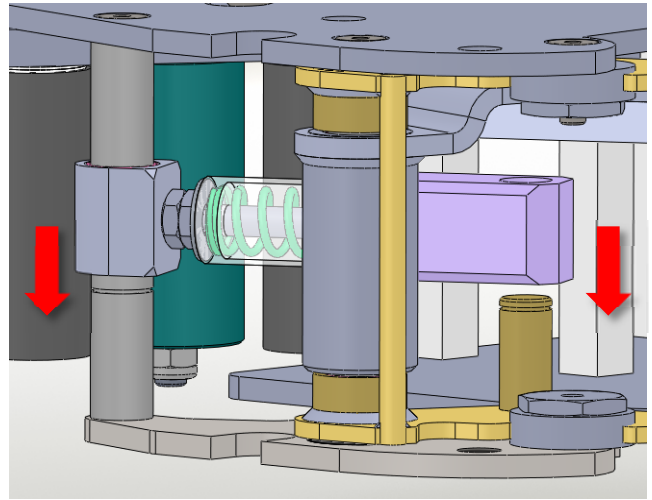

Figure 10-12
4. Press the spring barrel against the spring mandrel until it is ready to slide back on the short shaft. See Figure 10-12. Move the whole sub assembly back to its original position.